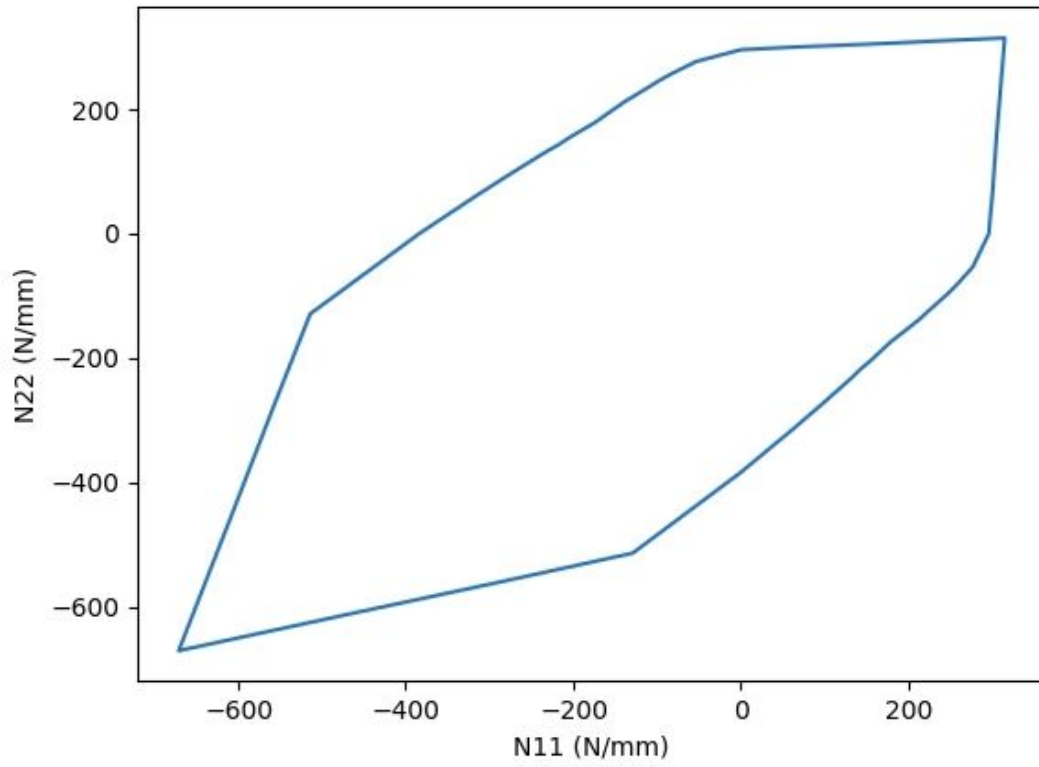

Fig. 8
* The results will automatically pop up (Fig. 7). Users can use this file to plot the failure envelope using any software (e.g., python) and the plotted failure envelope is given in Fig. 8.